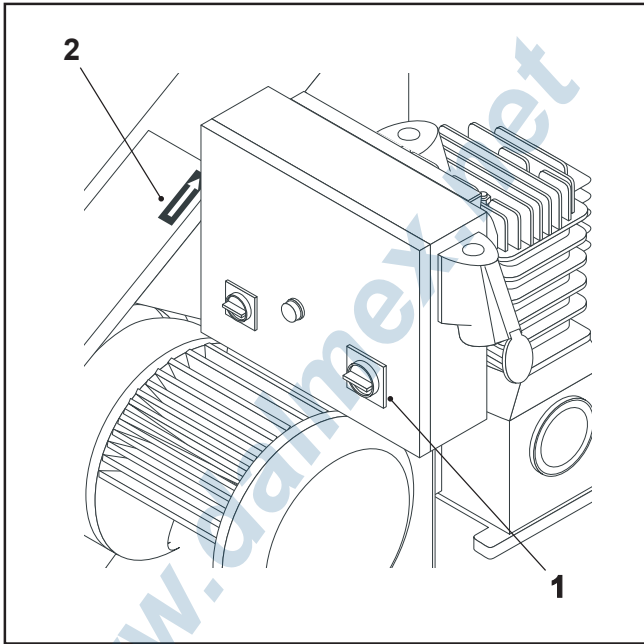

FIG.30
- turn the master switch (red on yellow background) (FIG.30-REF.1) into position I and check that the motor turns in the correct direction indicated by the arrow (FIG.30-REF.2) positioned on the belt cover sump.
Switch the machine off by turning the master switch (FIG.30-REF.1) to position 0: